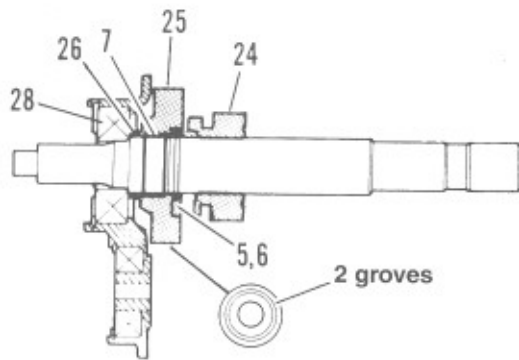

Figure 6-37.
3. See Figure 6-37. Place spacer (26) over mainshaft and position next to bearing (28). Position split bearing (7) into machined seat next to spacer (26). Locate mainshaft 4th gear (25), which can be identified by the two radial grooves at one side. Slide gear (25) onto shaft with radial grooves facing door. Position gear over bearing next to spacer (26).
4. Install thrust washer (6) and retaining ring (5) next to gear (25). It will be necessary to push the retaining ring into final position with a screwdriver.
5. Slide mainshaft 1st gear (24) onto mainshaft with the locking dogs facing gear (25).